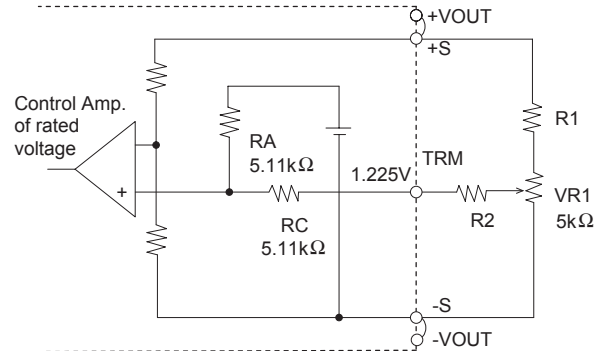

Fig.4.4 Output voltage control circuit
(1) To adjust output voltage
- By connecting the external potentiometer (VR1) and resistors (R1, R2), output voltage becomes adjustable, as shown in Fig.4.4.